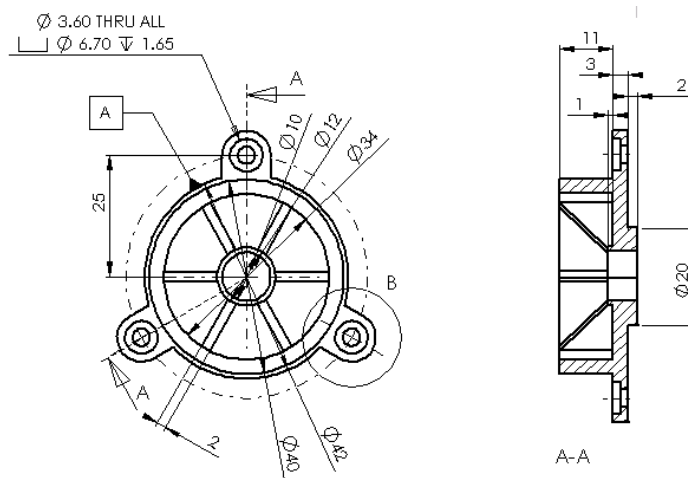

Figure 13-36 Datum feature symbol added to the drawing view
- Add the datum symbol and geometric tolerance to the drawing views, refer Figures 13-36 and 13-37.
3. Select the datum feature symbol and drag and place it at a location as shown in Figure 13-36.